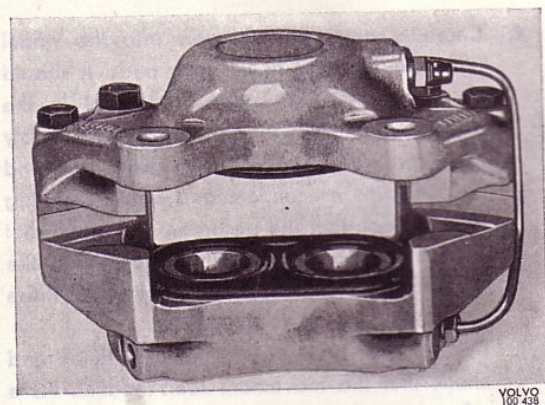

Fig. 19. Plungers fitted.
3. Fit the plungers with the closed end first. Press the plungers in fully and see that the rubber covers enter the plunger grooves, see Fig. 19.